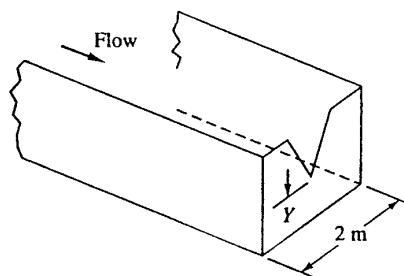

Fig. P10.120
- 10.120** The rectangular channel in Fig. P10.120 contains a V-notch weir as shown. The intent is to meter flow rates between 2.0 and 6.0 m3/s with an upstream hook gage set to measure water depths between 2.0 and 2.75 m. What are the most appropriate values for the notch height  $Y$  and the notch half-angle  $\alpha$ ?